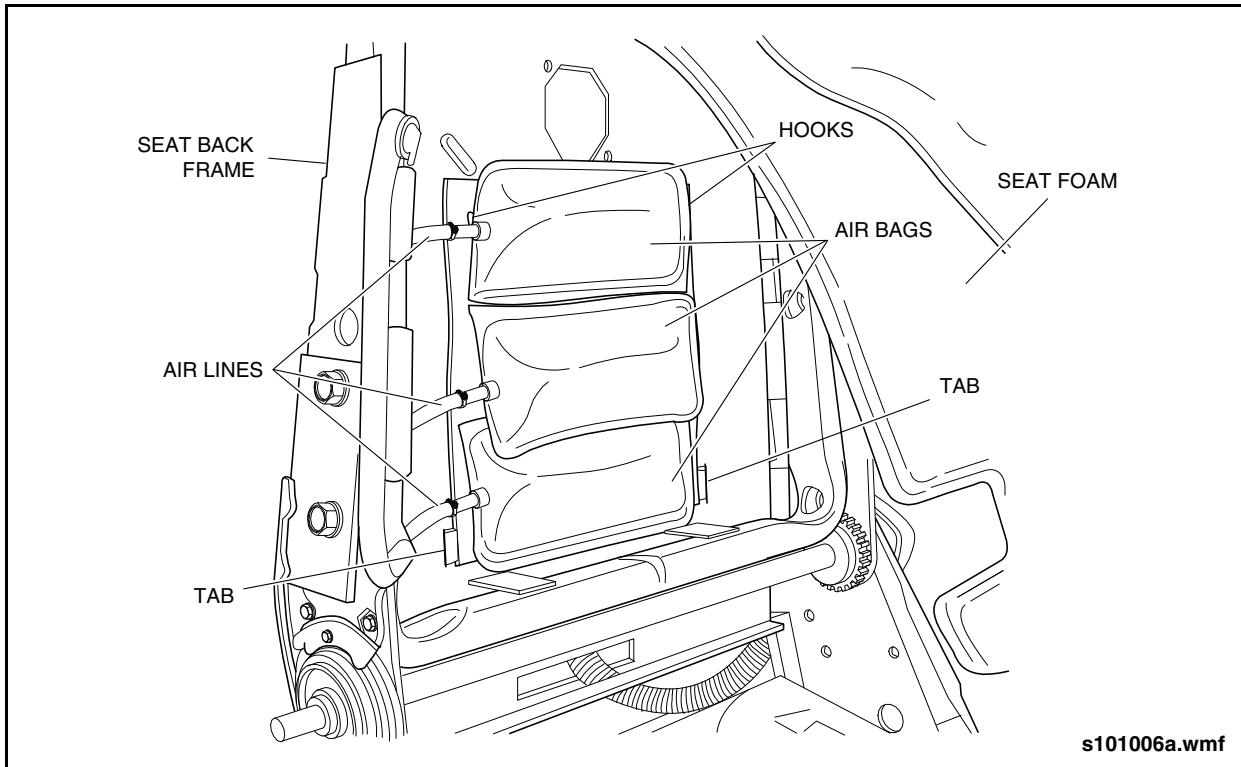

Fig. 17-9: Seat Lumbar Bags
5. Install new lumbar bag assembly on backrest frame by sliding bottom tabs into square slots and attaching top to hooks on seat back. See "Fig. 17-9: Seat Lumbar Bags" on page 9.